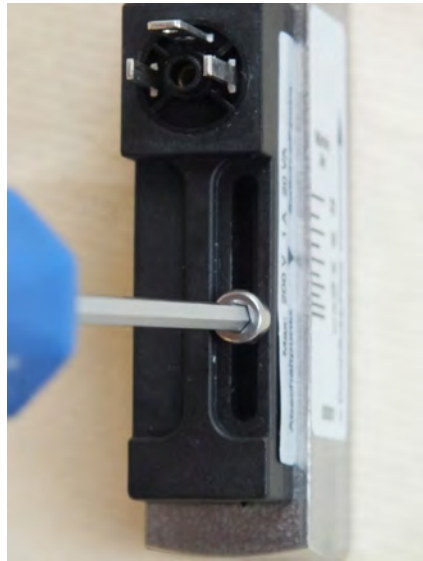

Fig. 51: Loosen set screw
- 3.** ➤ Using a hex screwdriver (Fig. 51), loosen, then remove the set screw of the switch contact